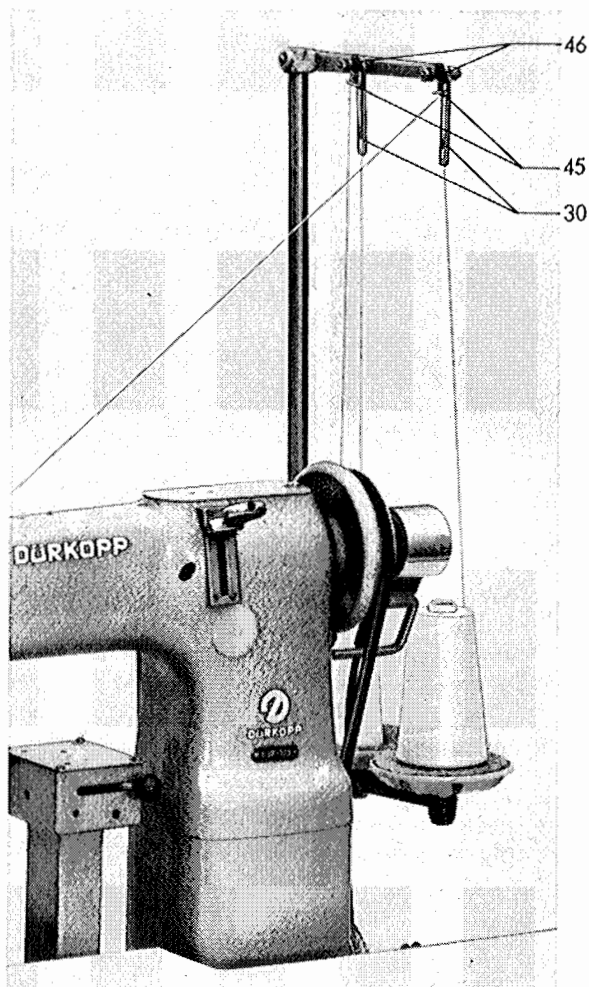

Fig. 15
In order to save time, the bobbin thread can be wound while sewing. It passes from the rear thread reel through the holes of thread guide 30 (fig. 15) upwards, through r/h hole of guide 45, between thread tension
The path of the needle thread is shown in figs. 15 and 18. Set thread take-up lever to its topmost position and pass the thread:
1. From the front reel upwards through holes in guide 30 (fig. 15), through r/h hole in guide 45, between tension disks 46 and downwards through l/h hole in guide 45,